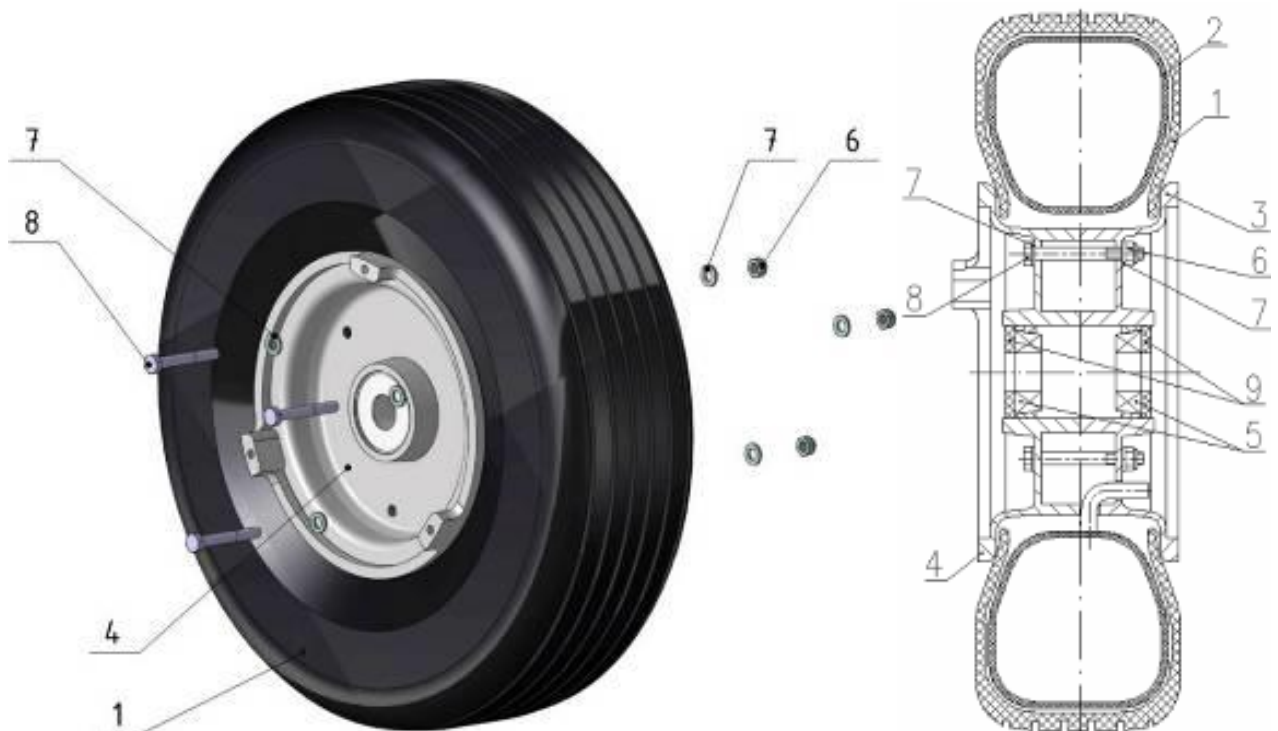

Fig. 32-10-6
B. Tire and Tube Check and Replacement (Fig. 32-10-6)